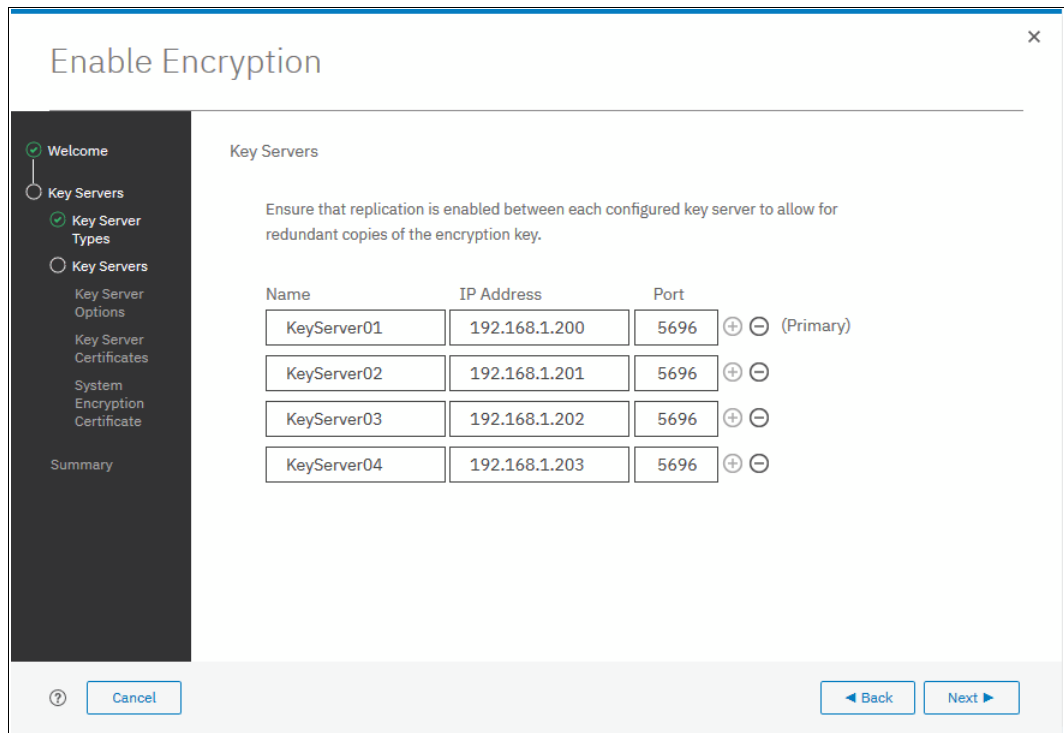

Figure 13-33 Configuring multiple SKLM servers
5. If you want to add more secondary SKLM servers, click + and enter the data for the secondary SKLM servers, as shown on Figure 13-33. You can define up to four SKLM servers. Click **Next** when you are done.